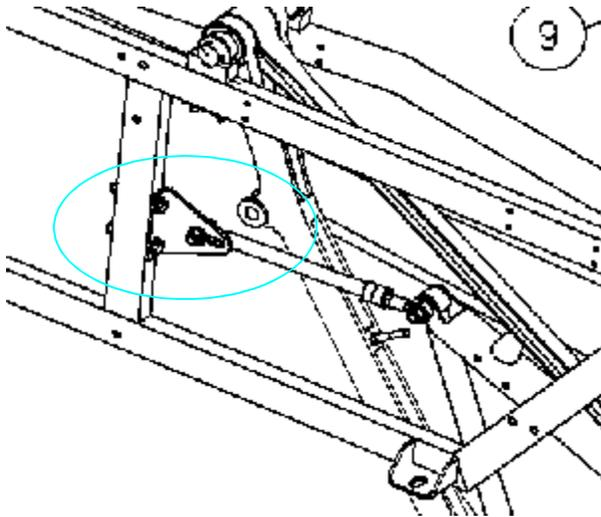

Figure 5
3. In figure 5. The bracket shown is bolted to the side-frame and it adjusts up or down to change the sweep height during the sweeping motion. Where do you position the sweep to make this adjustment?